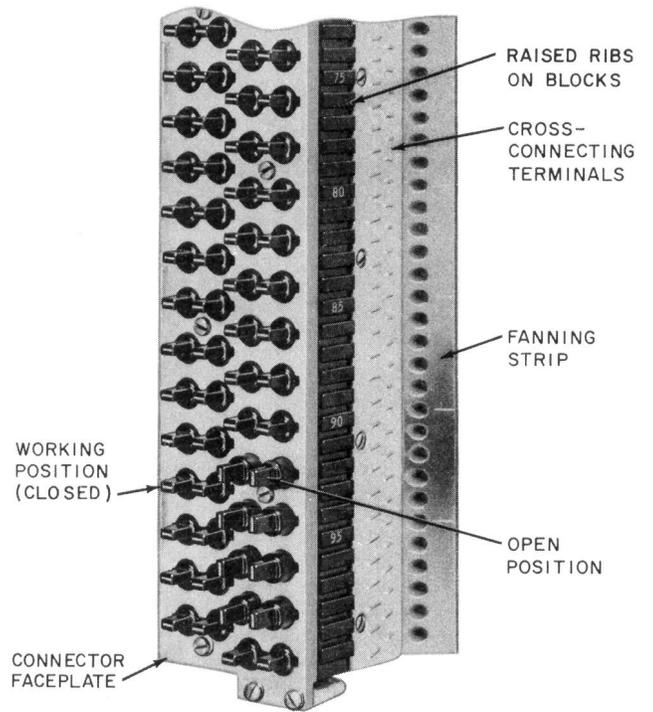

Fig. 2—Open and Working Positions of Protector Units
- 3.02** When the white or blue line on the cap of the protector unit is in a vertical position, protection is provided to the outside plant cable pair but the circuit is open to the central office side of the connector (Fig. 2).
- 3.03** A connection is made between the outside plant cable pair and the central office side of the connector by depressing the protector unit and turning it clockwise until it locks in position with the white or blue line on the cap in a horizontal position (Fig. 2).